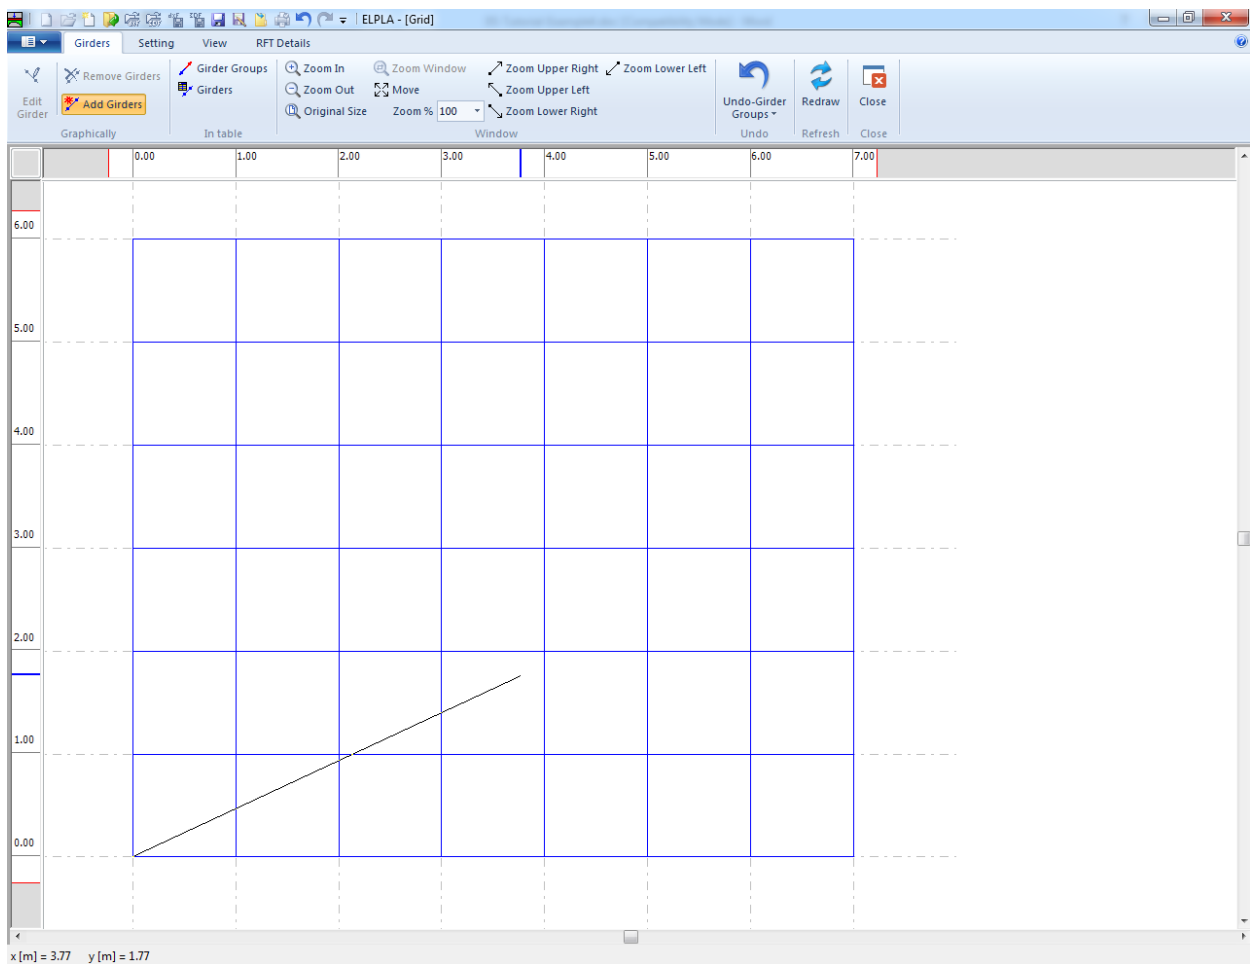
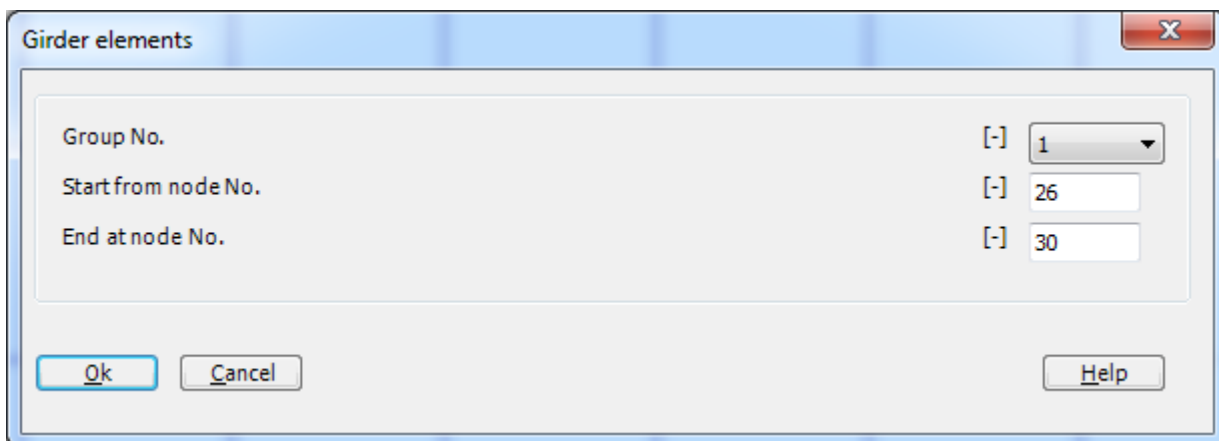

Figure 4.14 Add girder by mouse
Figure 4.15 "Girder elements" dialog box
- Click the left mouse button on the start node of the first girder and drag the mouse until the end node of that girder (Figure 4.14). Then click on the end node. The "Girder elements" dialog box in Figure 4.15 appears